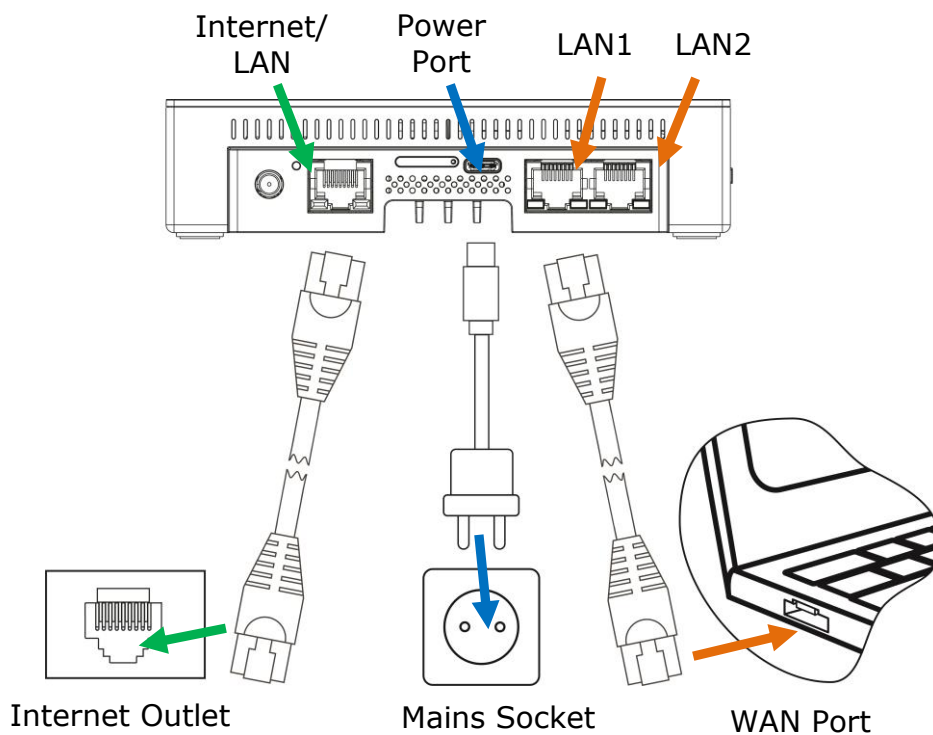

Figure 10 – Connection to the Internet outlet, mains socket and the laptop
1. Unpack the IoT Router and connect it to the mains using the power adapter (See Figure 10 below). Wait for at least 30 minutes for the device to be recharged.